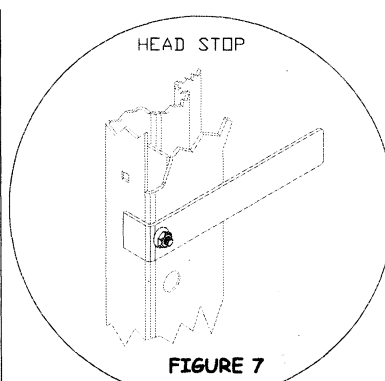

FIGURE 7
- A. Place head stop over outside of each guide. See figure 7.
STEP 8: MINI STOP CLIPS, HANDLE(S) AND PULL ROPE